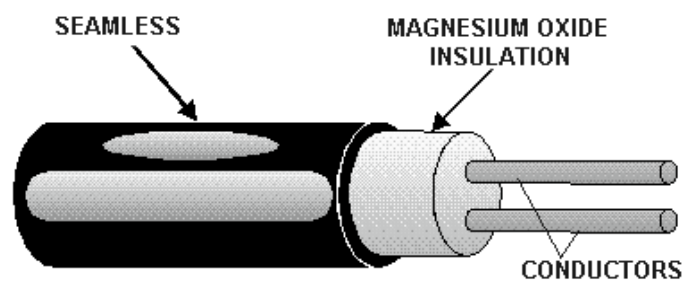

Figure 1-14.—Two-conductor mineral-insulated (MI) cable.
Mineral-insulated (MI) cable was developed to meet the needs of a noncombustible, high heat-resistant, and water-resistant cable. MI cable has from one to seven electrical conductors. These conductors are insulated in a highly compressed mineral, normally magnesium oxide, and sealed in a liquidtight, gastight metallic tube, normally made of seamless copper (figure 1-14).